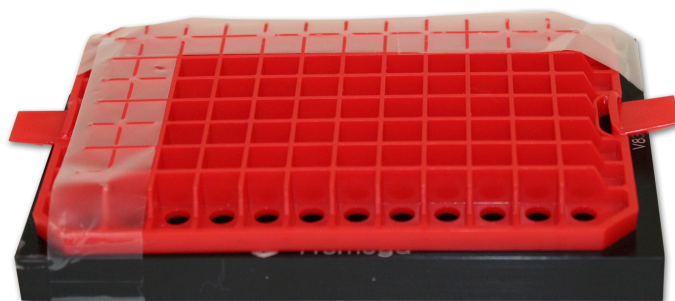

Figure 3. Setup for positioning tubes containing first-strand cDNA.
- In order to ensure proper and steady positioning of the tubes containing first-strand cDNA (from Protocol A), you may place the tubes in the top part of an inverted P20 or P200 Rainin Tip Holder which is taped to the MagnaBlot II Magnetic Separator (Figure 3).